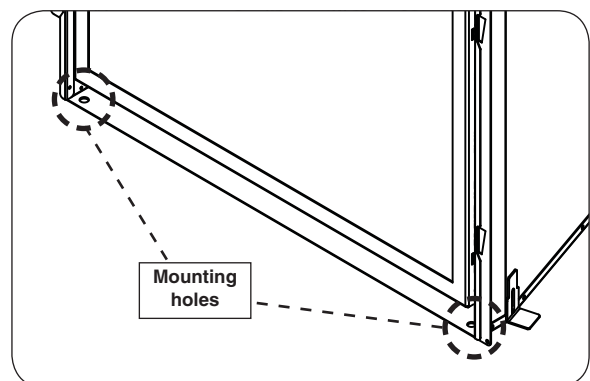

Fig. 34-3 Secure direct vent to fireplace floor
1. Locate the two $\frac{5}{16}$ " holes on the far left and right front floor of the unit. Using appropriate mounting hardware for your fireplace construction, secure the unit to the floor. See Fig. 34-3.